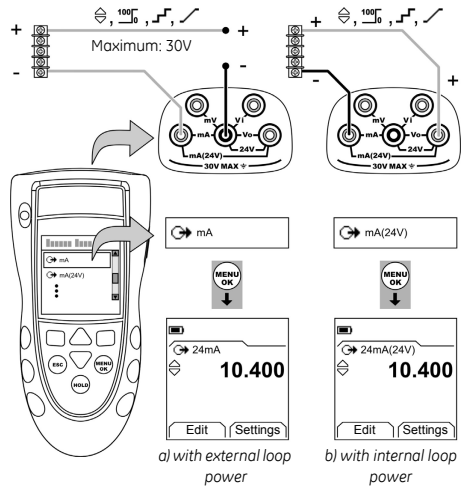

Figure 3: Example configuration - To supply mA
1. Connect the instrument (Figure 3) and, if necessary, adjust the *Set Up* (Table 1).